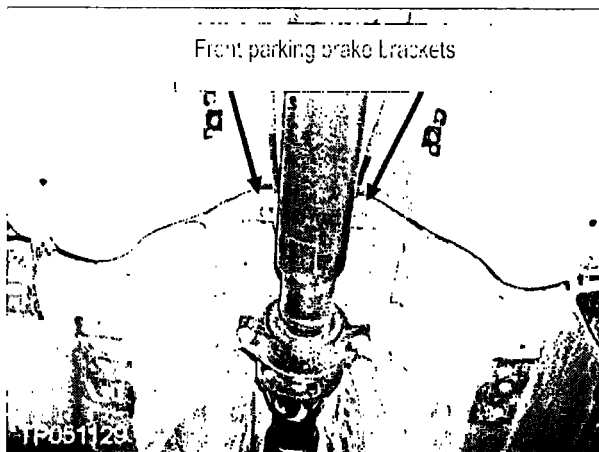

Figure 14a
18. Remove the front and rear parking brake brackets (see Figure 14a and 14b).